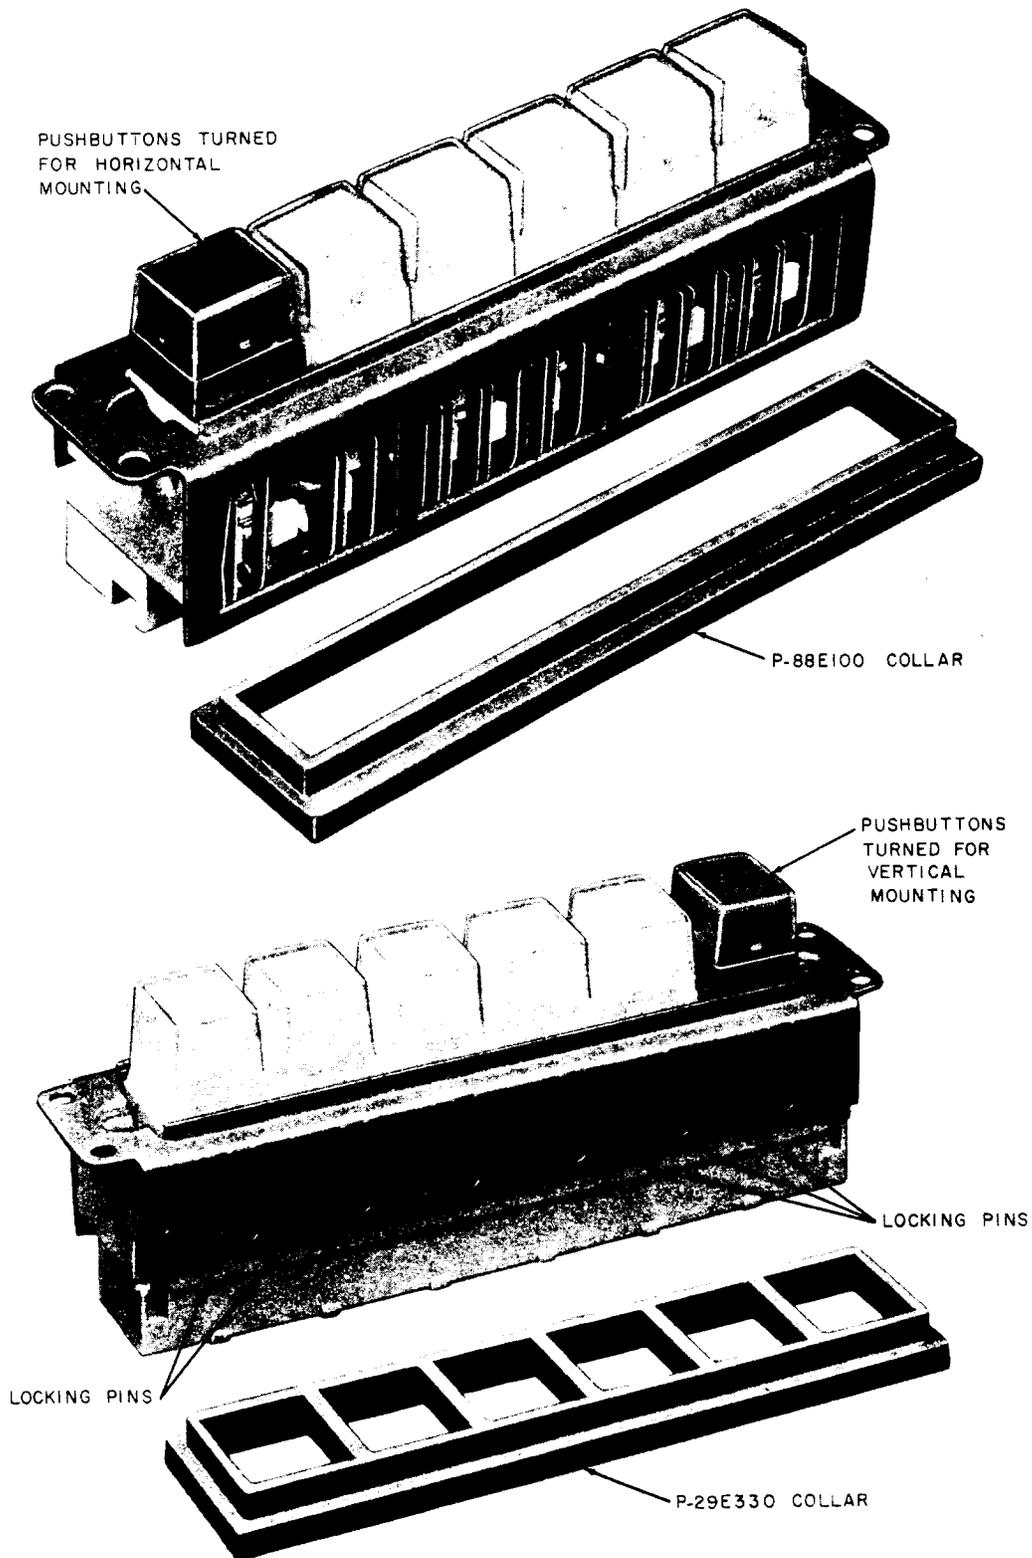

Fig. 9—635A Key Showing Both Collar Types
**2.28** The 635A key (Fig. 9) is a 6-button key (5 pickups and hold) intended for use in wall or panel type telephone sets. The key is 4-3/4 inches long, 1-1/16 inches wide, and 1-15/16 inches high. The six self-designating buttons are illuminated by 53A lamps under the button caps. Connections to the key are made by a plug-ended D50Y mounting cord (ordered separately).
**2.30** A plastic collar is required for use with this key and must be *ordered separately*. The collar retains a released button when another button is depressed. Two collars are available. See Fig. 9.